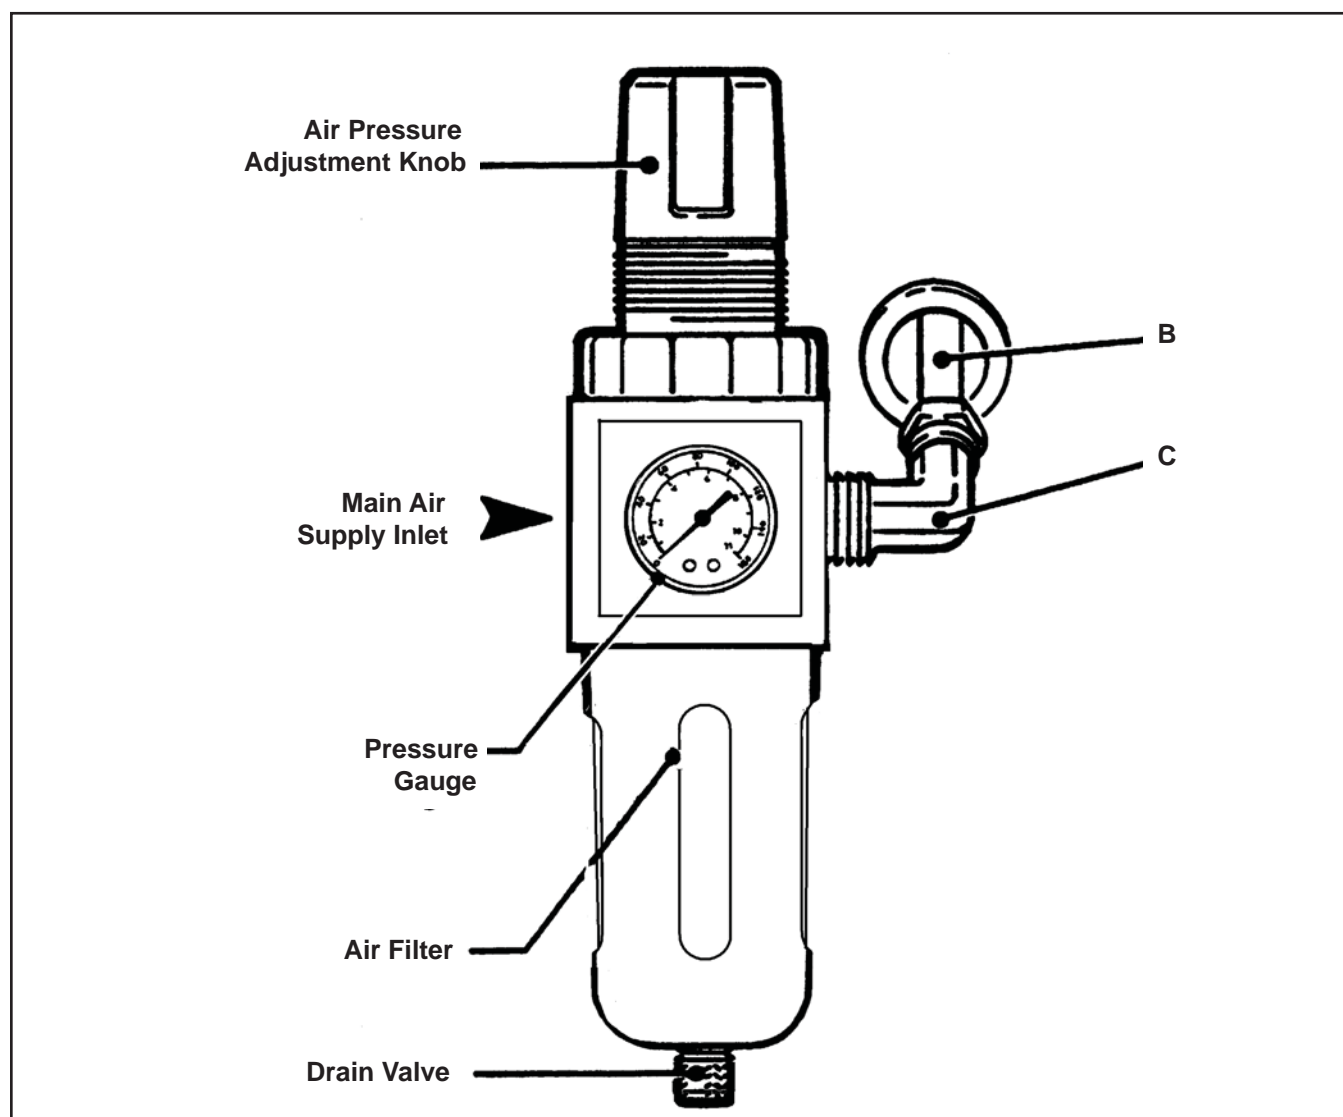

Figure 5-4 Air Control Unit – Set-Up
2. Refer to **Figure 5-4** and push the air line (B) onto the male elbow (C) on the right side of the air control unit as shown.
Connect main air supply line to main air supply inlet on air regulator. See **Figure 5-4**.